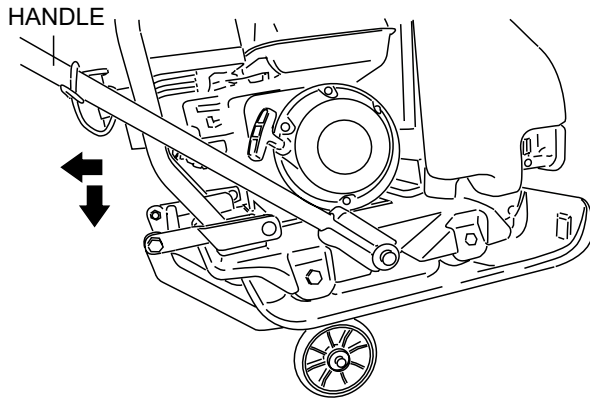

Figure 13. Transporting The Compactor
- Pull back and push down on the handle (Figure 13), then raise the compactor slightly. Compactor is now ready for transport.